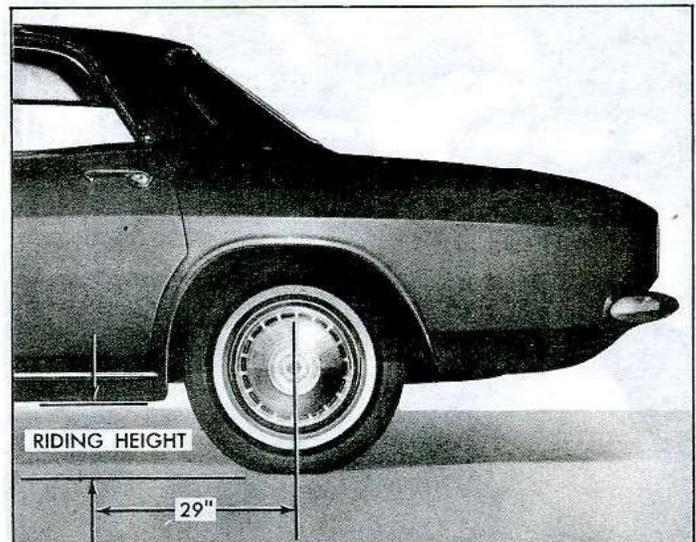

Fig. 69—Rear Riding Height
- of the rocker panel 29" ahead of center line of rear wheel (fig. 69).